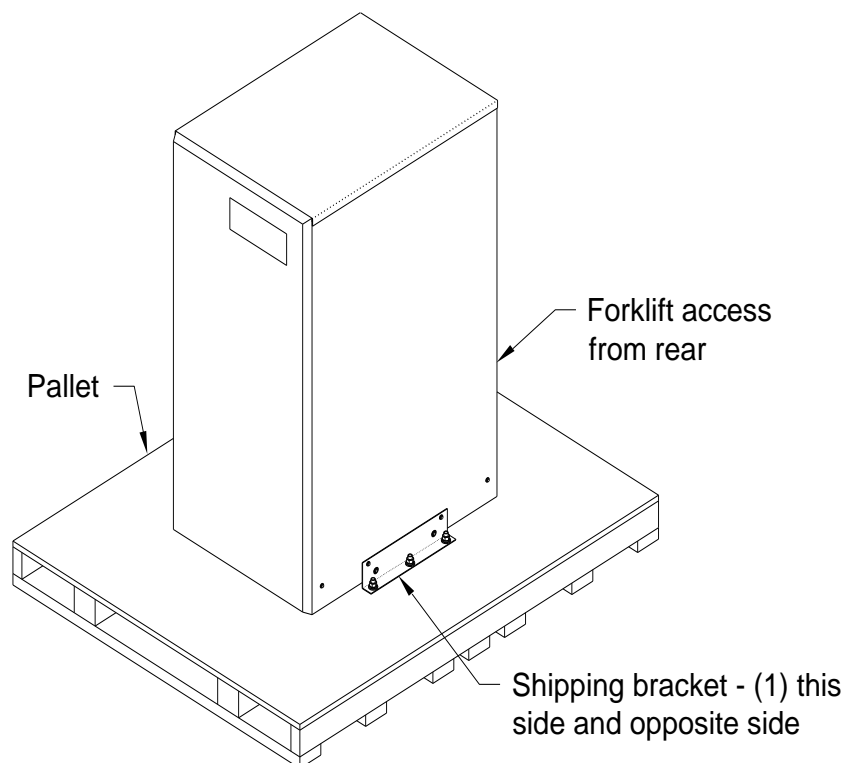

Figure 2-UPS on pallet
2. Loosen the six 1/2" nuts and washers securing the shipping brackets to the pallet (see Figures 2 and 3).